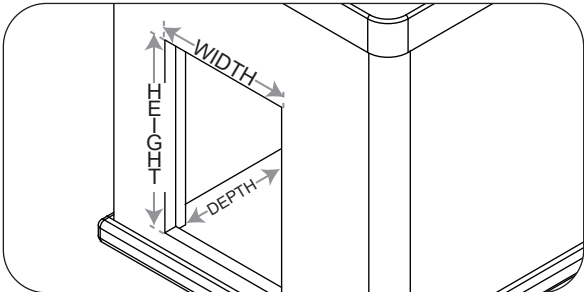

Fig. 1-1 Orientation
1. Create the appropriate cutout in your enclosure as specified for your model number. See Table 1 and Fig. 1-1.